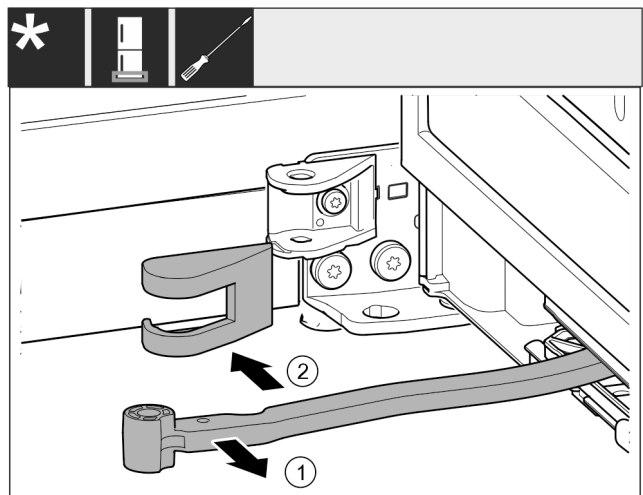

Fig. 16
- Turn the hinge in the direction of the door. Fig. 16 (1)
- Remove the bearing bracket cover. Fig. 16 (2)